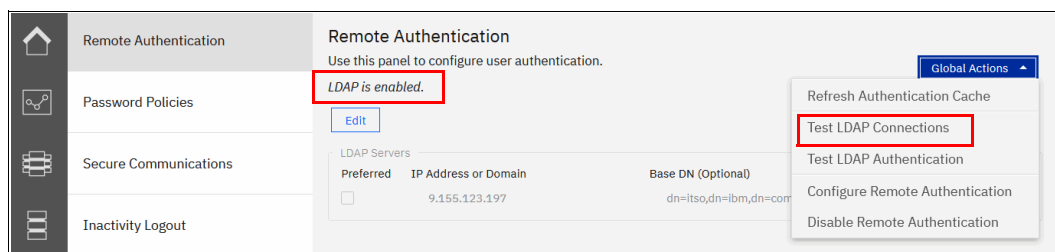

Figure 3-68 Verifying that LDAP is enabled
4. To verify that LDAP is enabled, select **Settings** → **Security** → **Remote Authentication**, as shown in Figure 3-68. You can also test the server connection by selecting **Global Actions** → **Test LDAP connections** and verifying that all servers return “CMMVC7075I The LDAP task completed successfully”.
4. To test the user authentication, select **Settings** → **Security** → **Remote Authentication**, and then select **Global Actions** → **Test LDAP Authentication** (for an example, see Figure 3-68 on page 190). Enter the user credentials of a user that is defined on the LDAP server and click **Test**. A successful test returns the message “CMMVC70751 The LDAP task completed successfully”.